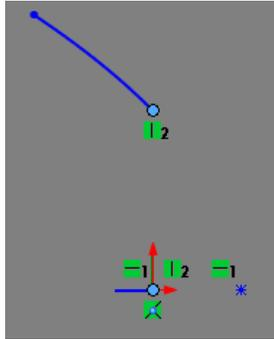

Figure 22 Green boxes with vertical bar indicate the second relation
- 20 The second relation is indicated in the graphics area by two green boxes, each with a vertical bar to the left of a numeral. See Figure 22.